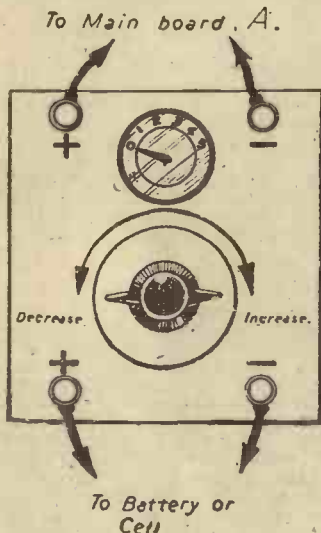
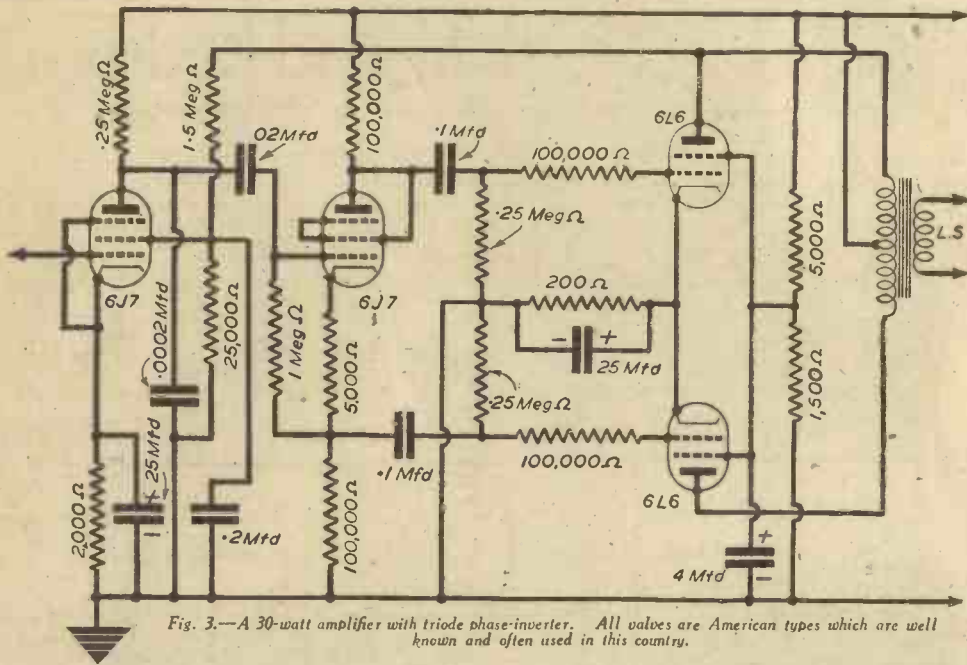
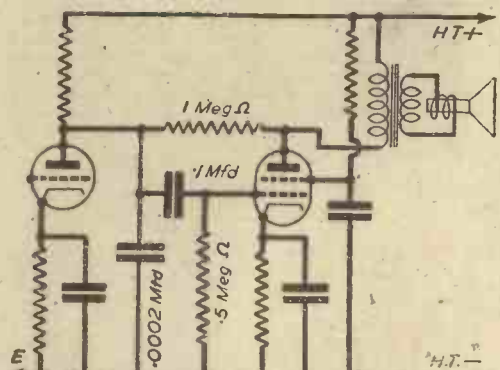

Fig. 1.—A typical single-circuit board.
Fig. 3.—A 30-watt amplifier with triode phase-inverter. All valves are American types which are well known and often used in this country.
Fig. 5.—Voltage feedback in more practical form. Representative values are assigned to the components associated with the degenerative circuit.
THESE two boards provide a total of eight independent charging circuits. Where alkaline batteries are also to be charged a separate compartment should be provided, and a pair of cables looped from board (A) to feed a further panel. Fig. 1 illustrates a typical board having one circuit fitted with a variable resistance and ammeter enabling a variable charging current of 6 to 10 amps to be utilised. Since these boards have no cutout they are for use with bulb and dry rectifiers, and not with motor generator sets, for should the supply fail there is no back feed through that type of rectifier where no cutout is installed.
In paraphase the same principle applies. Instead of employing a centre-tapped transformer to feed the two push-pull valves, however, we use a different method of obtaining phase reversal, or phase inversion, for one of the valves. Fig. 1 shows a simple form of practical circuit. The first valve is a normal L.F. amplifier—it may be the triode section of a double-diode-triode. This is followed by another valve, which is generally known as a phase inverter. It may be regarded as an amplifier, but in point of fact it produces very little gain.
Instead of there being a single load resistance in the anode circuit of the valve, two separate and equal load resistances are used. One is in the anode circuit and the other is in the cathode circuit. These two loads are shown as  $R_{a1}$  and  $R_{a2}$  in Fig. 1. Each is equal in value to one-half of the optimum load of the valve. For example, if the valve employed had an optimum load of 20,000 ohms (that is, if the optimum output were given with resistor of this value in the anode circuit) the two resistors in question should each have a value of 10,000 ohms when the valve is used for phase inversion.
L.F. Amp Fig. 1.—A simple form of paraphase amplifier, with single triode phase inverter.
Before leaving the subject of paraphase amplification, it should be stated that, although triodes are indicated in Figs. 1 and 2, tetrodes and pentodes may equally well be employed. In general, it is most economical of valves and current supply to employ tetrodes in the
Fig. 3 shows a complete diagram of a 30-watt amplifier using American valves of types which are now well known on this side of the Atlantic. The circuit closely resembles that shown in Fig. 1, but there are a few refinements, and use is made of high-gain tetrodes and pentodes; the phase-inverter-pentode, however, is used as a triode, the screen being tied to the anode. Incidentally, it should be added that this circuit is not original, but is one taken from an American source. The circuit has, however, been used and has proved eminently satisfactory. The only disadvantage, from some points of view, is that an H.T. voltage of between 400 and 450 is required, and the total anode current consumption
In voltage feed-back the usual method is to feed back from the anode of the output valve to the grid of the same valve a voltage which is out of phase. This is automatically done, since there is always phase reversal through a valve amplifier; when the grid goes negative the anode goes positive, and vice versa. It is not always desirable to feed back the full inverse potential, and the arrangement shown in Fig. 4 may be used. Here it will be seen that a potentiometer is connected across the output, with a condenser in series, and feedback to the grid circuit is taken from the tapping on this potentiometer. It will be seen that the system of degeneration shown in Fig. 3 resembles that indicated in simpler form in Fig. 4. Another negative feed-back circuit is given in Fig. 5. In this case the lower "limb" of the potentiometer is made up of the grid condenser and leak in series.